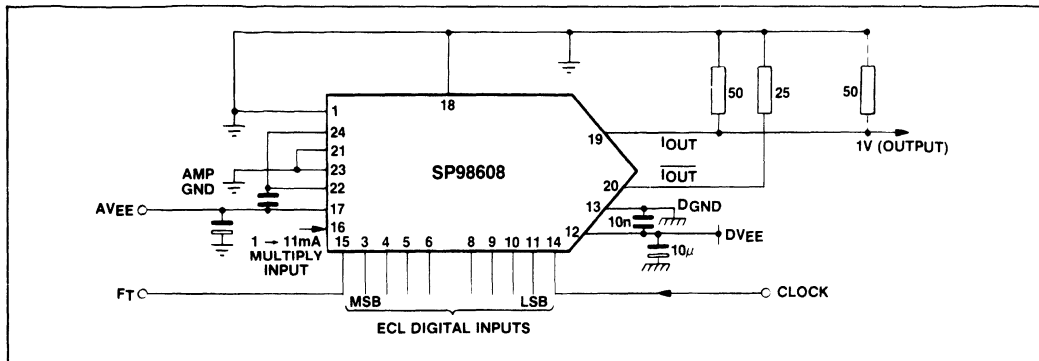

Fig.4 Current multiplying mode
- The output positive compliance can be increased beyond +1.0V at the expense of linearity. See Fig.4 for circuit configuration.
**Current Multiplying.** A circuit for using the DAC in current multiplying mode is shown in Fig.4. The transfer function is